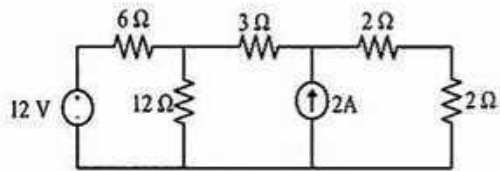

Fig. 6(b)
- (b) Using superposition principle find  $i_0$  the circuit shown in Fig. 6(b) [20]